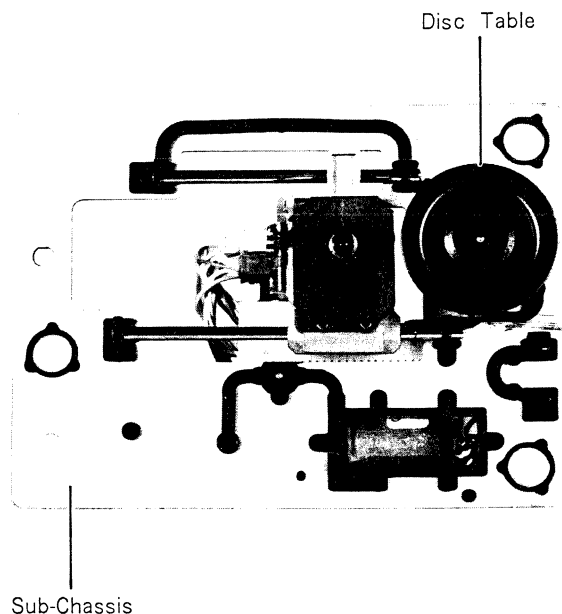

Figure 8
- (2) After disengaging one claw (A), remove the switch arm as shown in Figure 8.
(1) After removing three screws marked "O", remove the sub-chassis as shown in Figure 8.
- (1) Remove one screw marked “△” and lift up the motor as shown in Figure 8.
- (1) Remove two claws marked “E” as shown in Figure 8.
- (1) Remove three claws marked “F” as shown in Figure 8.